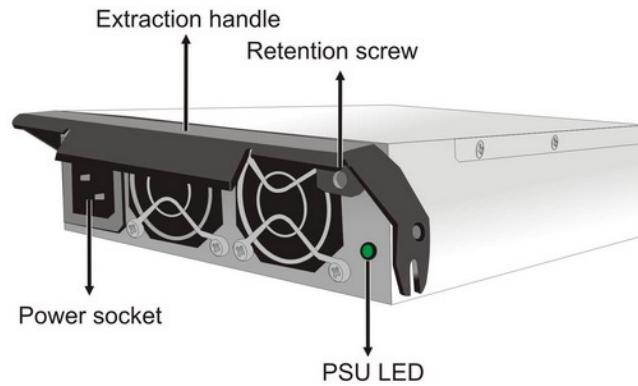

Figure 5-5: PSU Parts Identification
- Step 1.** **Power off the PSU.** The power switch is located on each PSU's rear-facing panel. (See **Figure 5-5**)